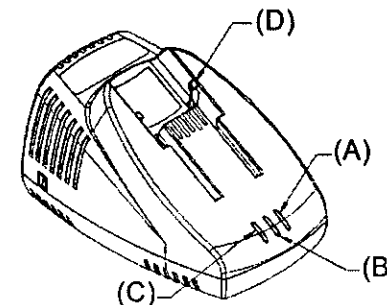

Fig. 6
Make sure power circuit voltage is the same as that shown on the charger specification plate. Connect charger to power source. The orange light (A) Fig. 6, should light up. This indicates the charger is ready to begin charging.